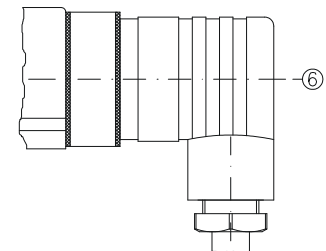

Fig. 5.2.6
- ↪ Plug the cable socket ② on the connector ① and tighten the central screw ⑥ (→ Fig. 5.2.6).